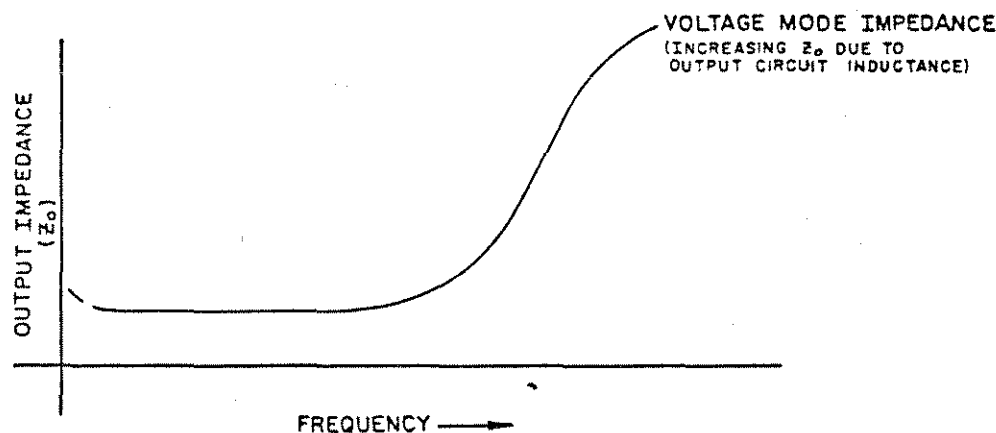

FIG. 3-1 TYPICAL OUTPUT IMPEDANCE VS. FREQUENCY PLOT FOR STABILIZED D-C VOLTAGE SOURCES.
- 13 The stabilized d-c power supply is definitely not an ideal voltage or current source with zero output impedance (VOLTAGE MODE) at all frequencies. All voltage sources have some amount of impedance which increases with frequency. (Refer to FIG. 3-1). A more realistic model for a voltage stabilized power supply must, for example, include a series resistance, representing the small d-c and low frequency source impedance, in series with an inductance, representing the source impedance at higher frequencies.